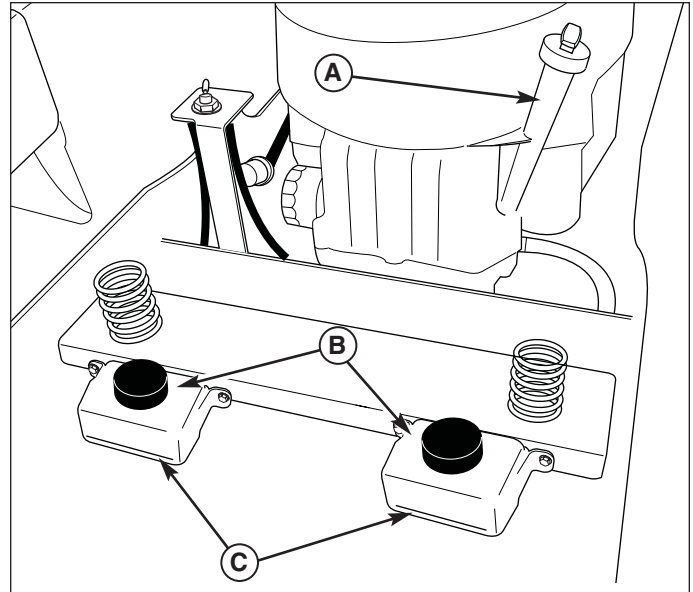

Figure 5. Checking the Fluid Levels
1. Use the engine oil dipstick (A, Figure 5) to check the engine oil level. If necessary add engine oil. Check the engine manufacturer's owner's manual for the oil recommendations.
1. Check the oil level when the unit is cold. Raise the seat plate to gain access to the transmission oil reservoirs (B, Figure 5). The oil should be up to the "FULL COLD" mark (C). If the oil is below this level, proceed to step 2.
3. Add oil up to the "FULL COLD" mark (C).